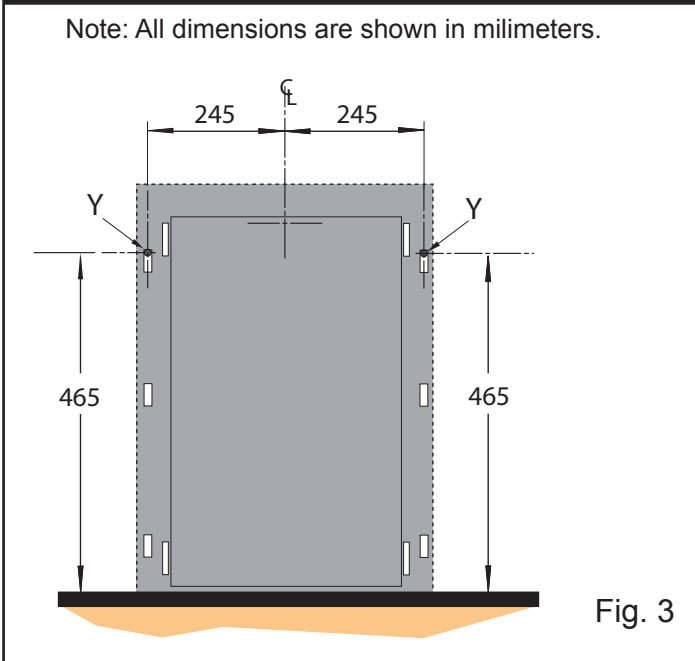

Fig. 3
1. Measure and mark the installation position of the hook. This position is indicated by 'Y' in Fig. 3 (the hook can be positioned on either side of the fire).